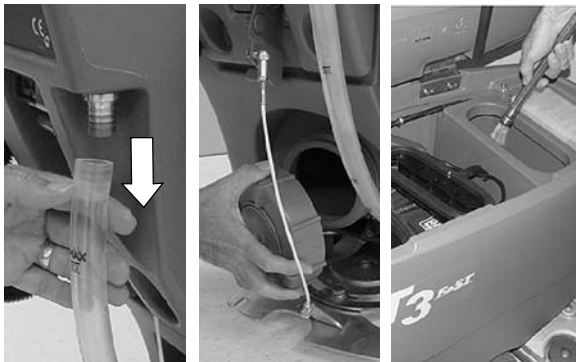

FIG. 46
- Drain the solution tank and rinse out the inside with hot water, 60°C (140°F) maximum temperature, as needed (Figure 46)